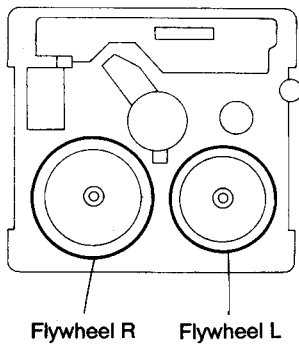

Fig.5-32
**■ Removing the Flywheel (See Figs. 5-32,5-33)**
3. After turning over the cassette mechanism, remove the slit washers ① and ② fixing the capstan shafts R and L, and pull out the flywheels R and L respectively from behind the cassette mechanism.